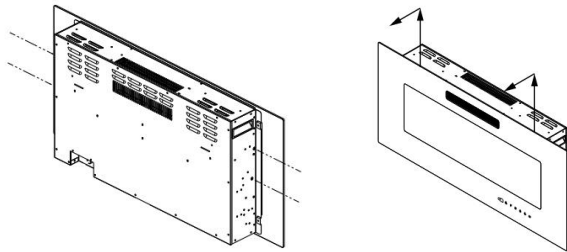

Fig.1
**Installation (see Fig1 ~ Fig 4)**
- Remove four silver screws from the sides of the heater, two screws on each side. Remove the tempered glass by lifting it from the lugs on the sides. see Fig.1